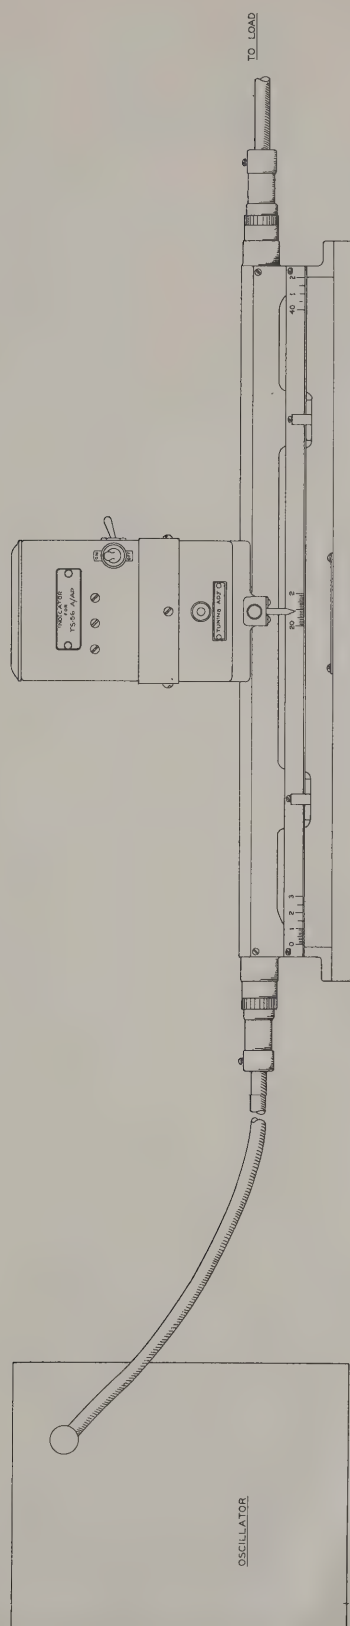

Figure 7. Equivalent Block Diagram for Impedance Measurements
a. The TS-56A/AP Slotted Line Test Equipment is connected as shown in Figure 7, for general use in standing wave measurements and determining characteristics of transmission lines, impedances and antennas.
2. To match an antenna, the equipment should be connected as indicated in Figure 7. With oscillator and battery ON and the indicator tuned, the indicator is moved along the length of the slot and any variation in reading noted. The antenna is then adjusted and readjusted until the antenna is matched as indicated by the constant reading of the indicator meter when the indicator is moved along the slot.